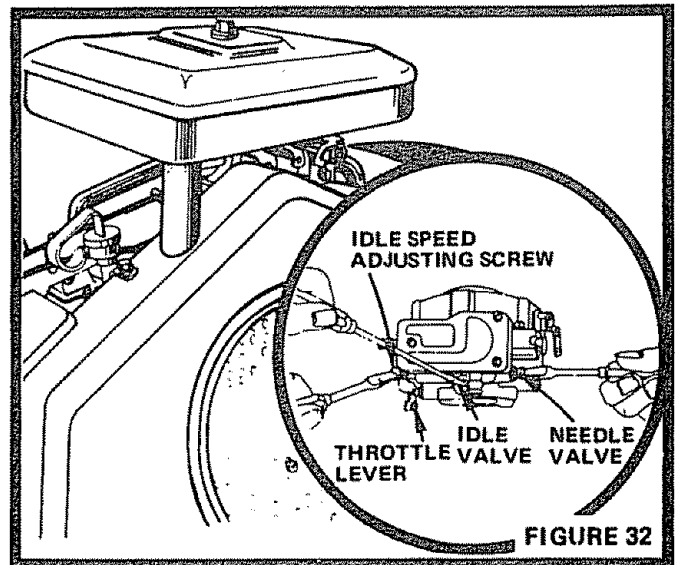

FIGURE 32
- Turn Needle Valve clockwise (↻) closing finger tight ONLY, and then turn counterclockwise (↺) 1 - 1/2 turns (Fig. 32).
HARD TO START Choked improperly, flooded Engine Clogged Fuel Tank, Fuel Line, or Fuel Filter Dirty Air Cleaner Spark Plug dirty or improper gap Defective Battery Defective Ignition or loose wiring Water in gasoline or old fuel Improper Carburetor adjustment	Place Throttle Control in fast position (Fig. 10) and run starter several times to clear out gas Remove and clean (Fig. 28) Remove and clean (Fig. 21) Replace Spark Plug and adjust gap (Fig. 26) Recharge or replace Check the wiring and Spark Plug Drain Fuel Tank and Carburetor, use fresh fuel and replace Spark Plug Make necessary adjustments (Fig. 32)
ENGINE MISSES OR LACKS POWER Engine overload Clogged Fuel Filter Clogged Fuel Tank Partially plugged Air Cleaner Improper Carburetor adjustment Dirty Air Screen Low oil level or dirty oil Spark Plug dirty, improper gap or wrong type Faulty ignition Poor compression Oil in gasoline	Shift to a lower gear or reduce load Remove and replace (Fig. 28) Remove and clean Remove and clean (Fig. 21) Make necessary adjustments (Fig. 32) Clean Air Screen, Cylinder Fins (Fig. 23) & Muffler area Add or change oil (Fig. 7) Replace Spark Plugs and adjust gap (Fig. 26) Check Spark Plugs and for any loose wires Major Engine overhaul Drain and refill Gas Tank and Carburetor
ENGINE OVERHEATS Dirty Air Screen Low oil level or dirty oil Dirty Engine Partially plugged Muffler Partially plugged Air Cleaner Stale fuel or improper Carburetor adjustment	Clean Air Screen (Fig. 17) Add or change oil (Fig. 7) Clean Cylinder Fins, rotating Screen and Muffler area Remove and clean Muffler (Fig. 22) Remove and clean (Fig. 21) Use fresh fuel and adjust Carburetor (Fig. 32)